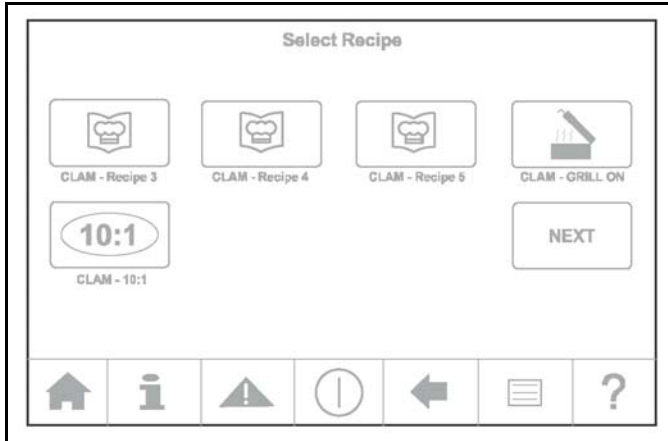

Figure-76
14. Select the recipe. See Figure-76.